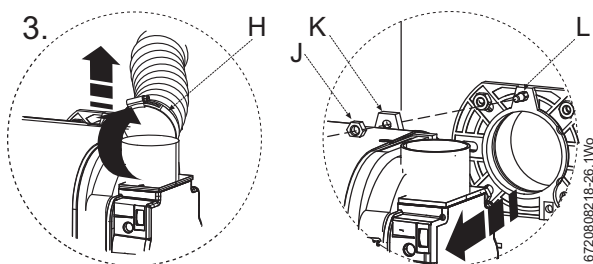

Fig. 39
- Unscrew to loosen the retaining ring (H) that secures the flexible air supply tube to the burner and pull the flexible air supply tube free from the burner (see figure 39).